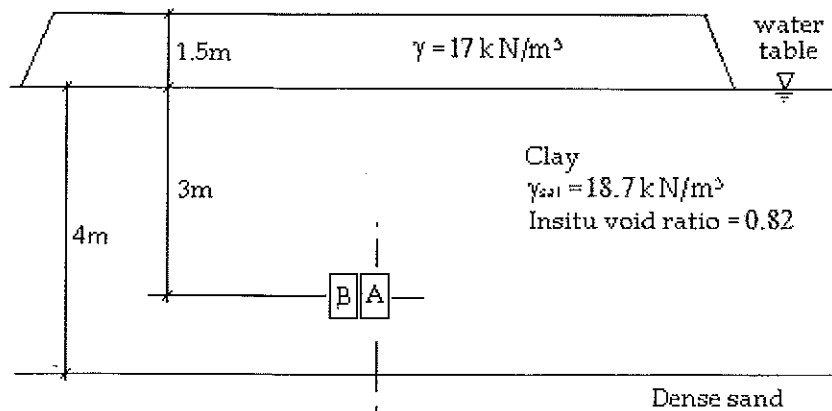

Fig. B3
3. Fig. B3 shows a uniform compacted fill placed over a large area of land underlain by a compressible clay soil.